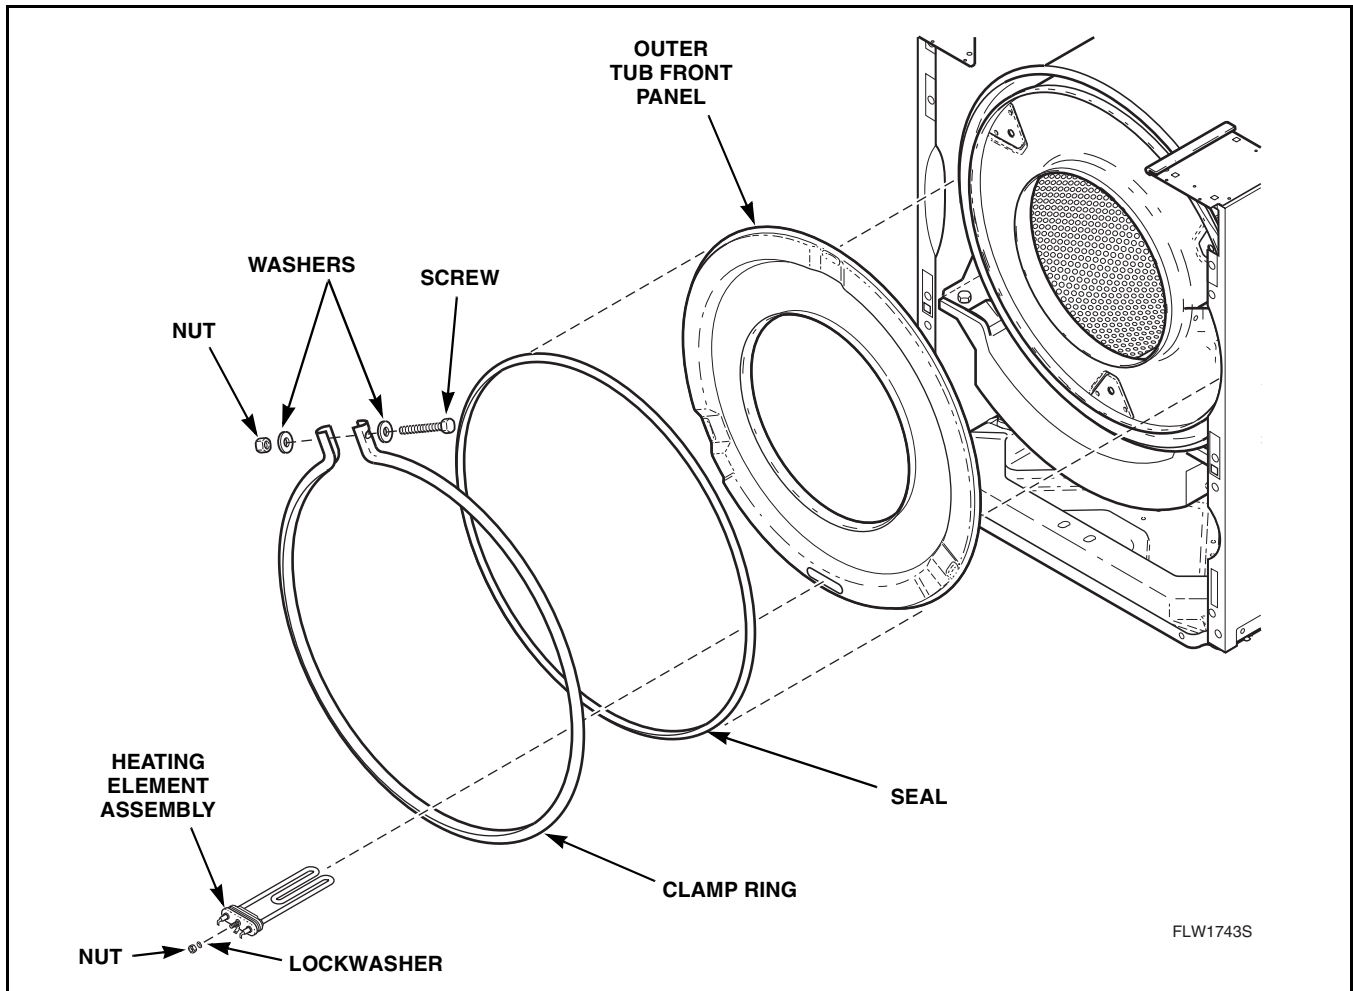

Figure 20
- Unscrew nut and lockwasher from center terminal of heating element assembly until nut is at end of threaded stud. Refer to *Figure 20*.
- Grasp heating element assembly by the terminals. Pull assembly and rubber washer through opening in outer tub front panel. Refer to *Figure 20*.